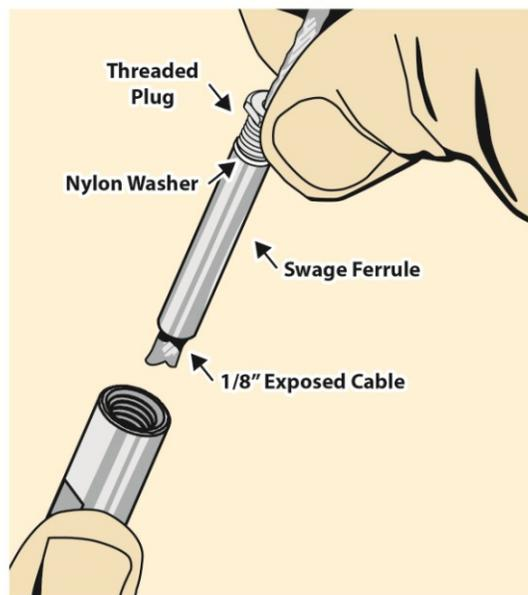

Fig 10
– Grasp cable end and push the following sequence of components onto the cable (Fig. 10).
- Refer to Fig 10.